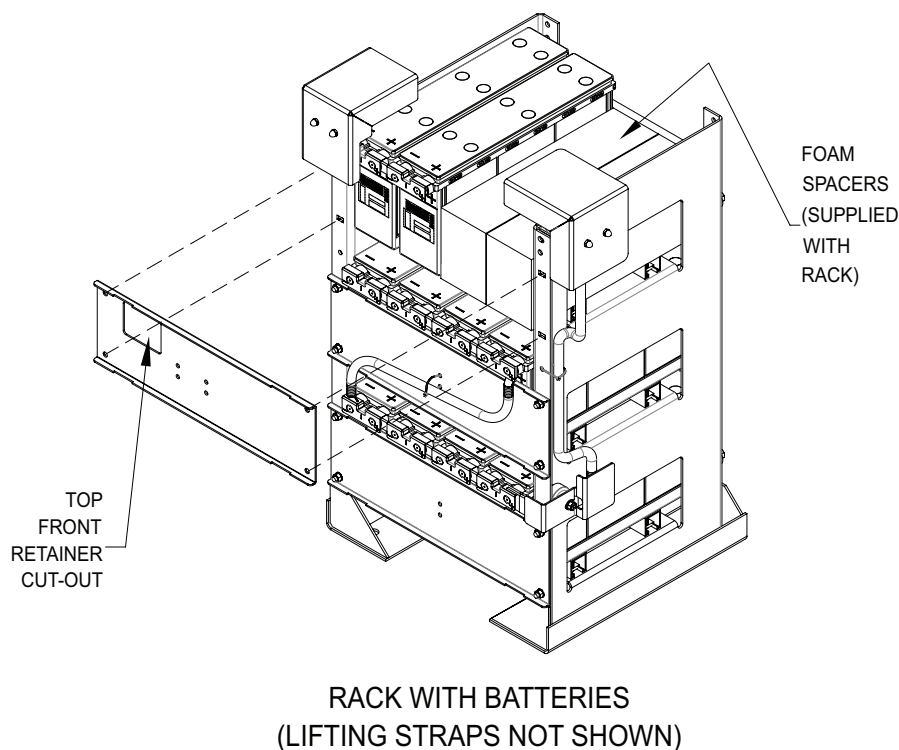

FIGURE 5
There is a maximum of four (4) batteries per tier. Foam spacers are used in tiers that have less than four (4) batteries (for example the 120V and 360V systems). The height of the foam spacer is below the height of the front restraint. Refer to the appropriate connection diagram for the location of the foam spacers. See **Figure 5**.
Attach the front retainer as noted on the rack assembly drawing. There is one (1) retainer per stack with a cut-out that allows clear viewing of the information on the battery label. The front retainer with the cut-out is always to be placed on the top tier only. See **Figure 5**.